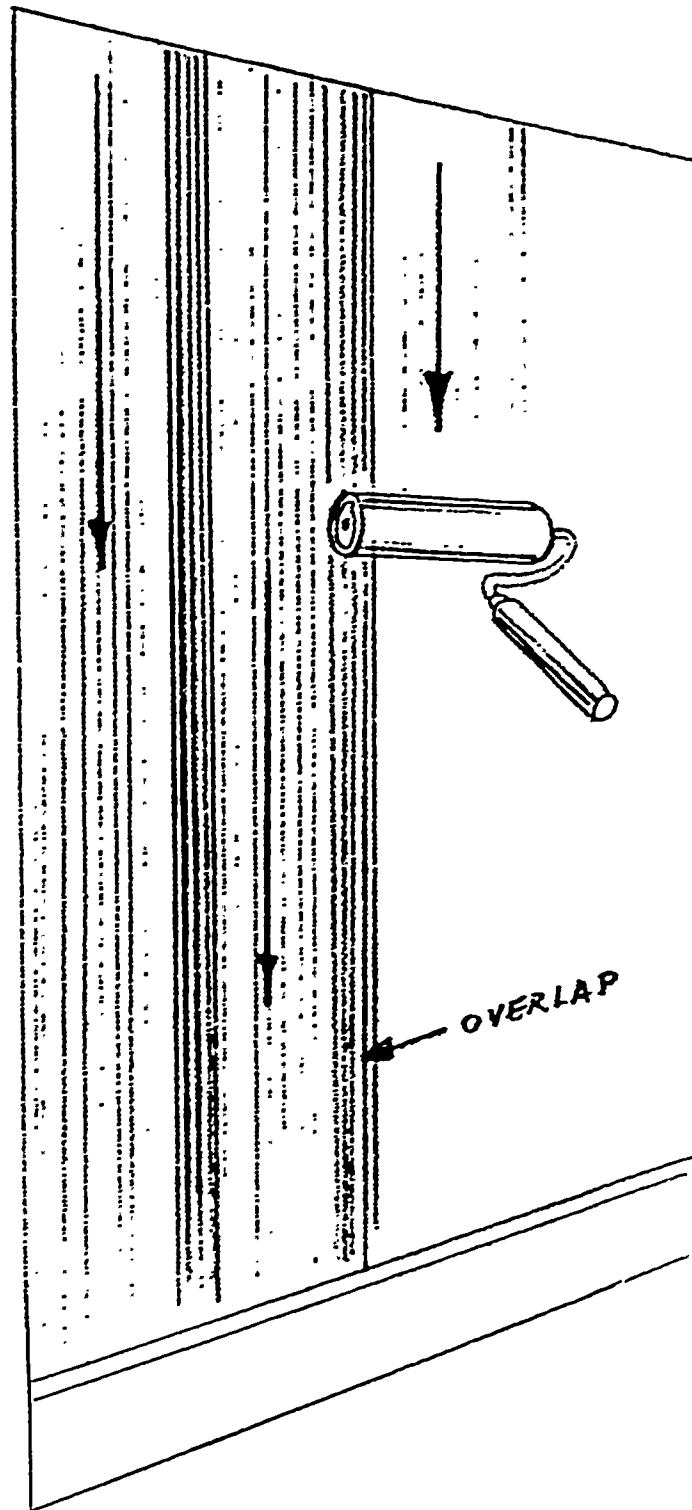

FIG. 409
13. Start at the ceiling and work down. (Roll in vertical strokes--brush in horizontal strokes and finish in vertical strokes) feather edges. See figure 409.